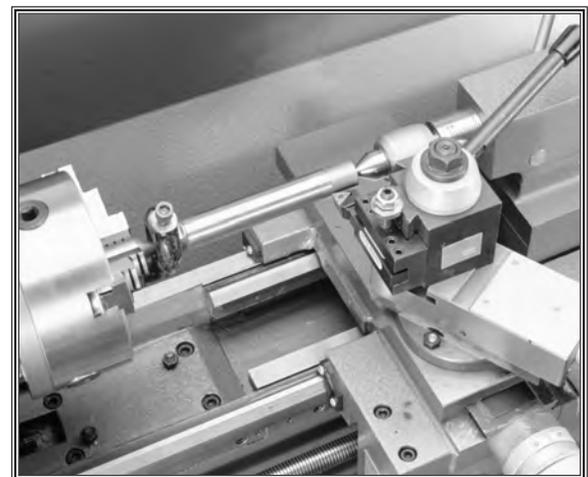

Figure 17. Bar stock mounted on centers.
4. Attach a lathe dog to the bar stock from **Step 1** and mount it between the centers (as shown in **Figure 17**).